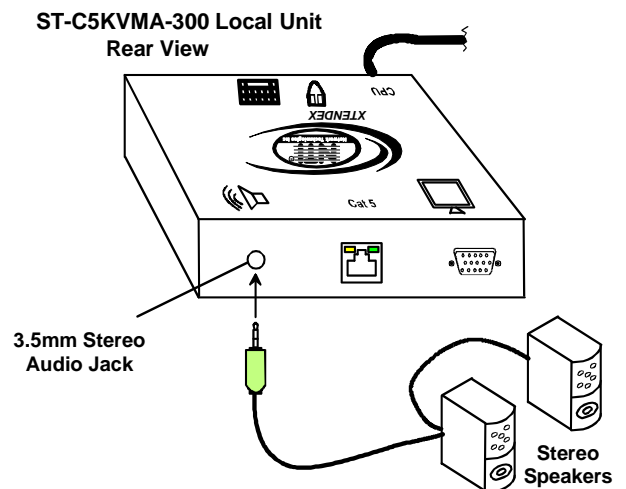

Figure 5- Connect speakers to Local Unit with audio support
- d) If the Local Unit has audio support, connect the cable from the local speakers to the 3.5mm stereo audio jack on the Local Unit. (See Fig. 5)